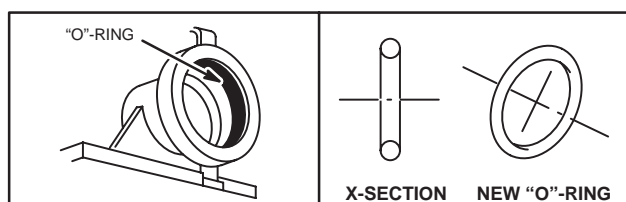

Fig. 162 – "O"-RING
1. Place "O"-ring in groove in throttle bore, Fig. 162.